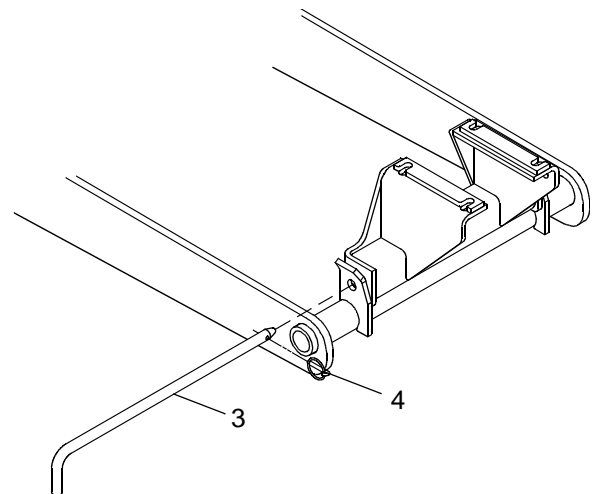

Figure 9 Bent Pin Installation
5. Align holes and install bent pin (3) and klik pin 4 as shown in Figure 9.